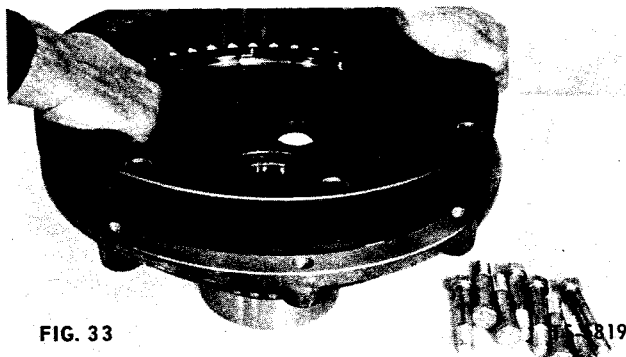

FIG. 33
1. Cut lockwires and remove bolts securing internal gear to hub. Remove internal gear (Fig. 33).